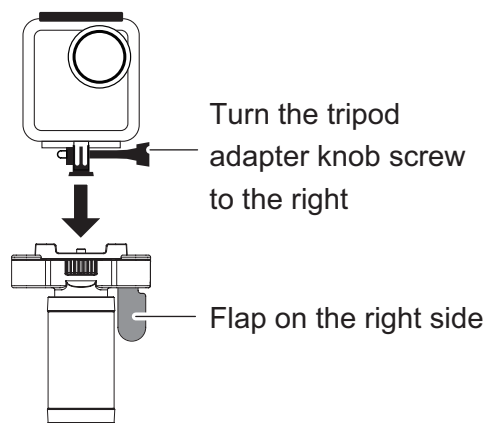

Figure 1
1. Place the underwater housing case on the head so that the tripod adapter's knob screw and flap are on the right side. (Figure 1)